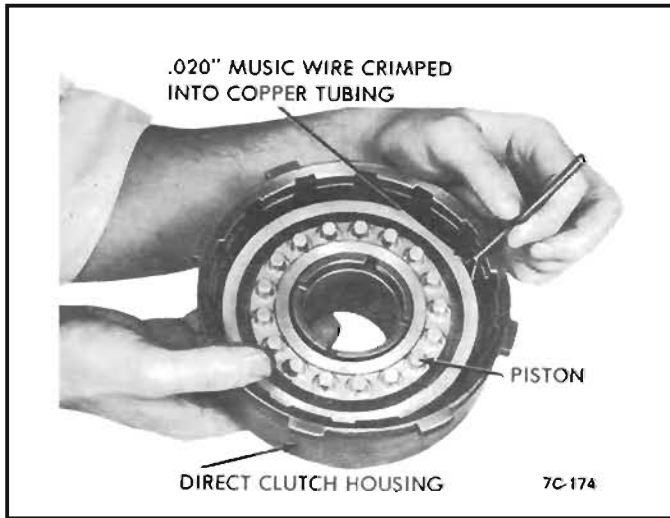

Figure 60 Direct Clutch Piston Installation
3. Install the direct clutch piston into housing with the aid of a piece of .020" music wire crimped into copper tubing. Use a liberal amount of transmission fluid during assembly. *See Figure 60.*